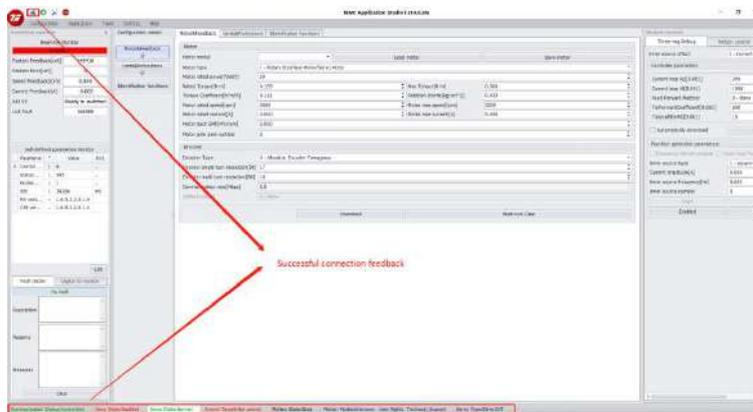

Figure 4-3 Establishing communication connection successfully
- 5) Click the "Connect" button to complete the communication connection, as shown in Figure 4-3.